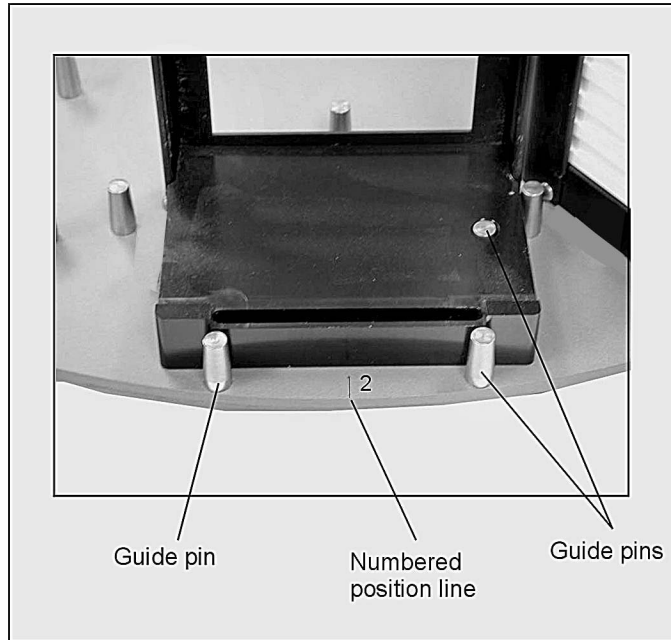

Figure 22: Location of numbered position line
1. Line up the middle of the landscape stacker with numbered position line on the carousel (see figure 22).